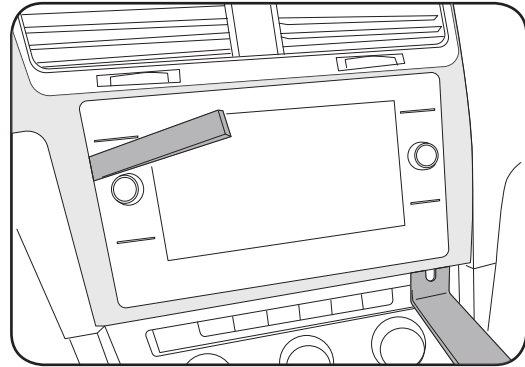

Fig. 1.1
1. Using a panel tool, carefully pry outward on trim panel and vents around radio. (Fig. 1.1)